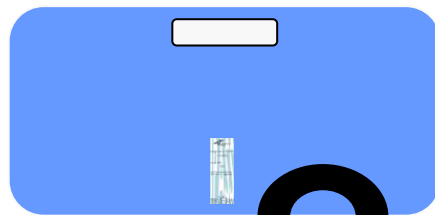

Figure 3
3. Stick the i-Pass to the **bottom** of the interior surface (As illustrated on figure 3) and press it firmly against the windscreen.